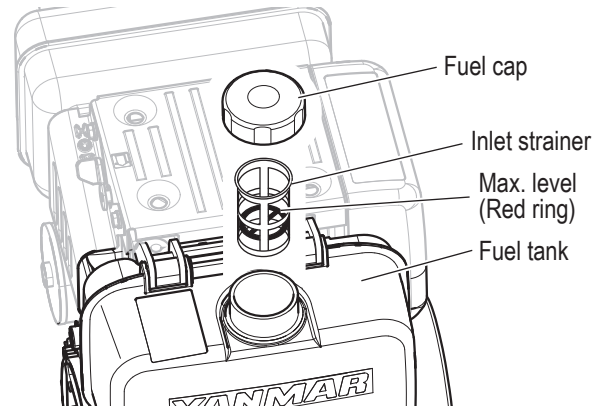

Fig. 2
- Visually check fuel level. If fuel level is low, refuel with clean diesel fuel. (Fig. 2)